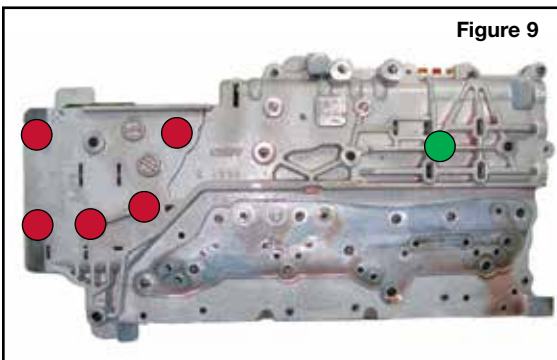

Figure 9
- Remove the five 7mm head bolts and single 10mm head bolt. The valve body halves may now be separated from each other (**Figure 9**).